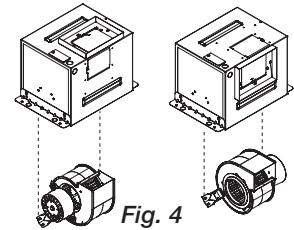

Fig. 4
4. To rotate from horizontal to vertical discharge, remove the two screws holding the power assembly in, and pull power assembly out. Rotate power assembly 180 degrees and put back into fan. Use the same screws to reattach power assembly to fan housing. Flip fan over and remove the four screws holding the discharge duct and damper assembly. Exchange the assembly with plate mounted on top of fan, shown in Fig. 4.